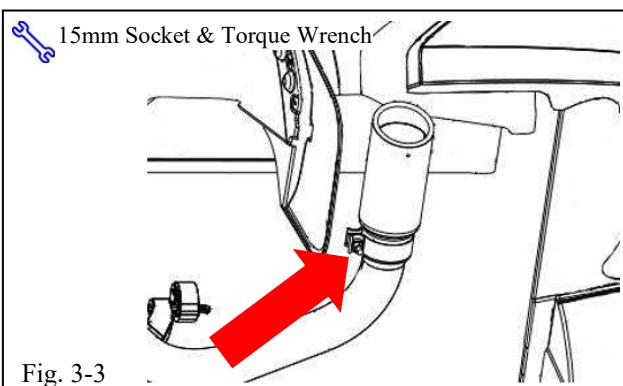

Fig. 3-3
- (c) Torque exhaust tip clamp (Fig 3-3).